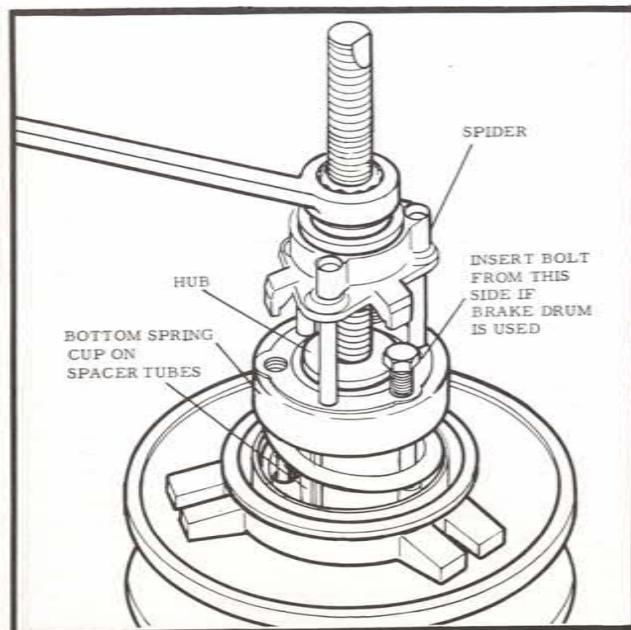

FIGURE 3-A-6
**SERVICE HINT:** Place short bolts in locking plate, figures 3-A-5, 3-A-6 to maintain bolt hole alignment in lock plate and spring cup.